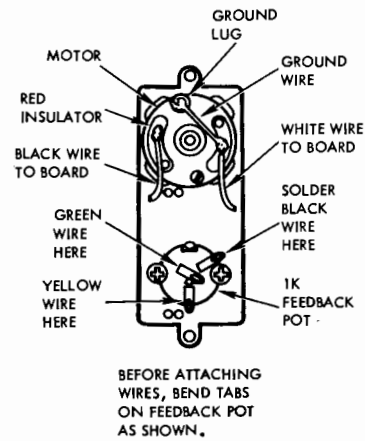

Figure 10. Feedback Pot and Motor Wire Connections
- 72. Bend tabs down on feedback pot as shown in figure 10.
- 75. Position white motor wire so bare lead runs across right terminal and across to ground lug (figure 10). Solder wire to terminal. Fold ground lug over bare lead and solder.